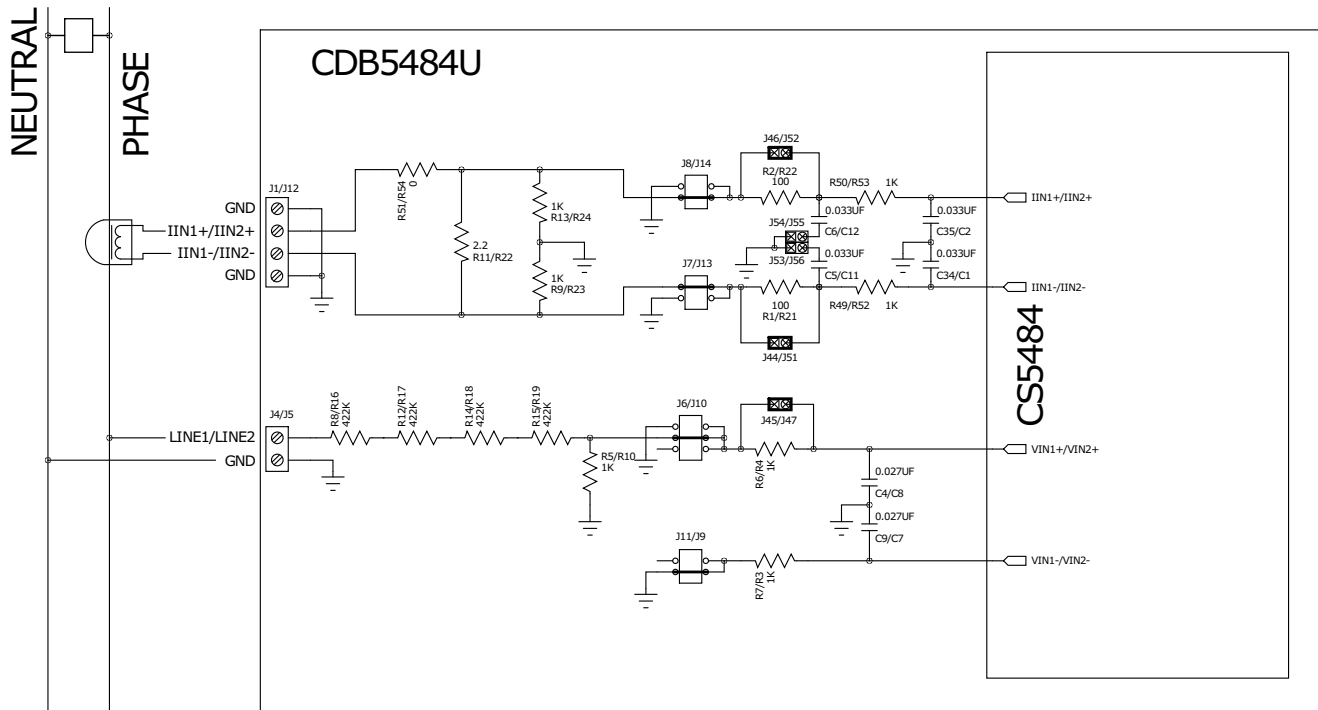

Figure 7. Current Transformer Power Meter
A slightly more expensive option is to use a current transformer (CT) to connect the AC current to the CDB5484U evaluation board. Figure 7 depicts the voltage and current connections for a CT sensor and its associated filter configurations.